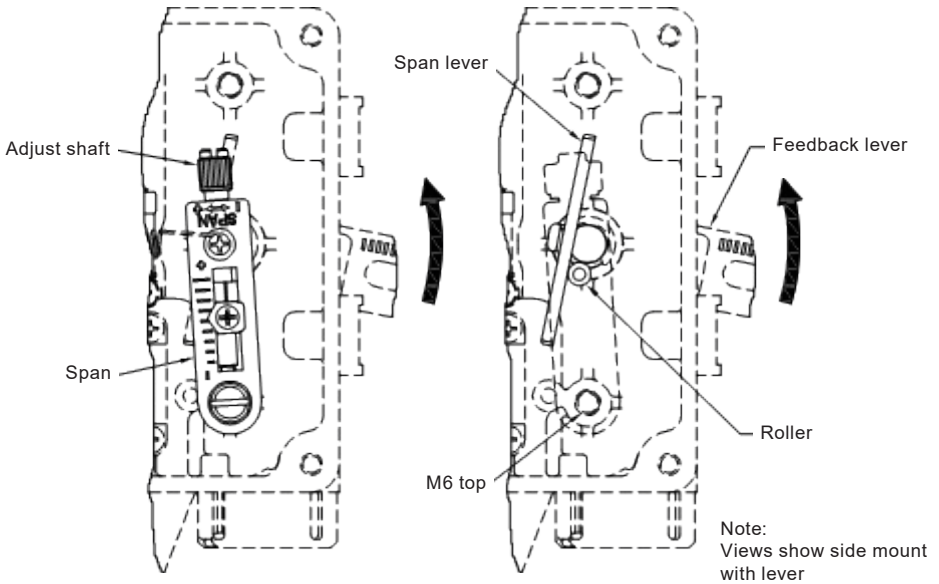

Fig. 20 Span Installation (side = RA, central = DA)
Central mount - If the actuator axis moves down when input signal is increased, assemble the "Span" to lower M6 Tap hole like the below Fig. 20. (DA)
- 2) Side mount - If the actuator axis moves up when input signal is increased, assemble the "Span" to lower M6 Tap hole like the below Fig. 20.(RA)